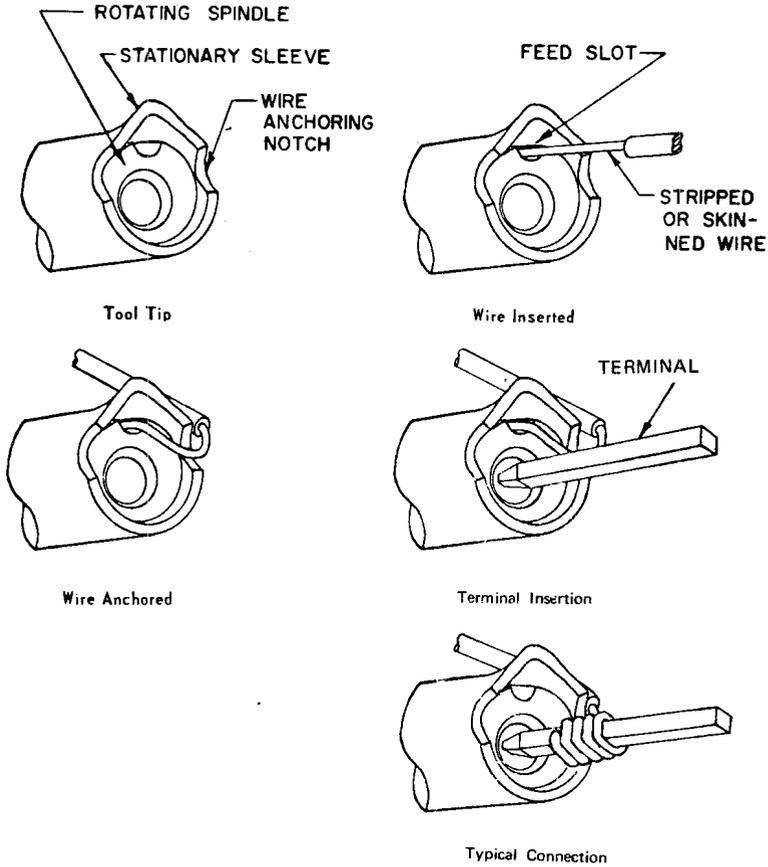

FIGURE 20. Solderless Wrapped Connection Process.
- a. Insert the skinned portion of the lead into the feed slot of the wrapping bit; ensure that no bare wire is showing. Bond the insulated portion of the lead into the anchoring notch as illustrated in Figure 20. Hold the wire taut in the anchoring notch and push the tool onto the terminal. Use of the left or right anchoring notch is determined by the direction of approach: